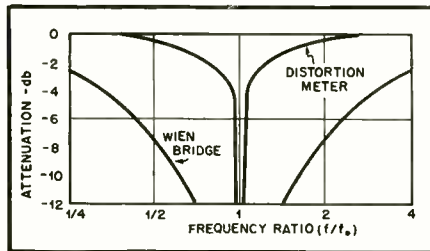

Fig. 4. Curves showing selectivity of Wien bridge and of the distortion meter using feedback around the bridge.
Figure 4 is a plot of the transmission characteristics for the entire unit, null connected, as compared to that of a Wien bridge alone. The increase in selectivity is obvious.
A highly successful method of making the measurements uses the bridge circuit of (A) in Fig. 4. Arms  $ab$  and  $bc$  are essentially the same as shown at (A) in Fig. 2, the low value standard resistance being used to obtain current waveform. The other arms are used to separate the fundamental component of magnetizing current from its harmonics, so that its phase can easily be read off from ellipse dimensions. To take the reading, the bridge is balanced for fundamental, so across the null points,  $bd$ , only harmonic appears. The potential drop across the combination arm  $ad$  is the same as the fundamental component of that across  $ab$ , in both magnitude and phase. The complete method is facilitated by the use of a Cossor double-beam oscilloscope, so the two Y quantities can be displayed simultaneously. Alternatively an electronic switching unit could be used.
The complete measuring circuit, including calibrating potentiometers, is shown at (B) in Fig. 4. The procedure for taking a reading at a given frequency and amplitude is as follows: